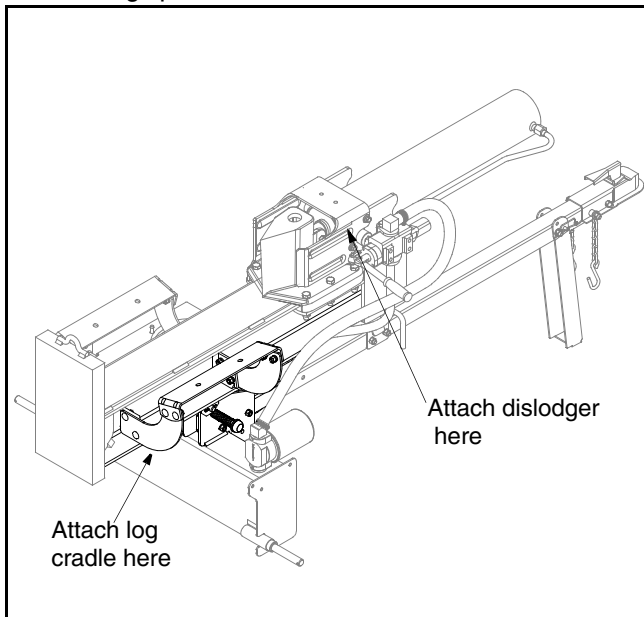

Figure 5
- Attach the dislodger over the wedge assembly and secure with hardware, previously removed, to the weld brackets. See Figure 5.
- Reattach the log cradle to the side of the beam with the control valve, aligning the ends of the cradle with the beam flanges. See Figure 5.